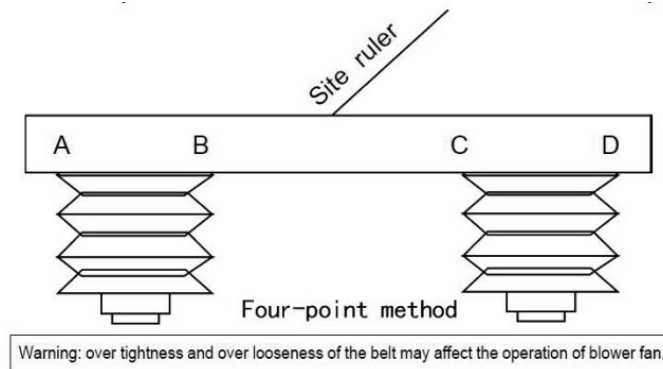

Figure 4.1 Schematic Diagram – Calibration of Pulley Flatness
- 1) Calibrate the flatness of the fan/motor pulley before starting the machine. Point A, B, C and D shall be in a straight line as shown in Figure 4.1. Otherwise, the pulley flatness shall be re-adjusted accordingly.